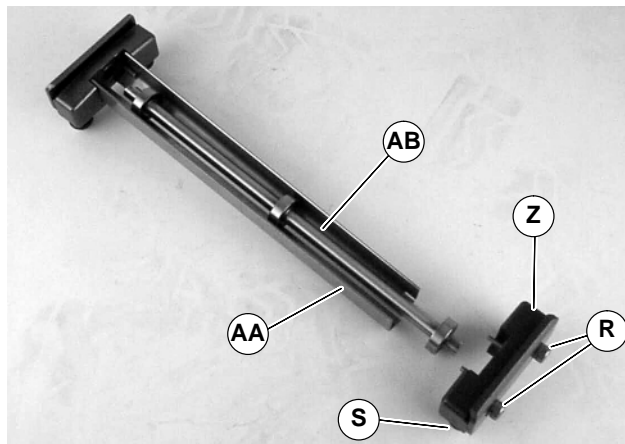

Figure 16
1. Gather attachment components (Figure 16).